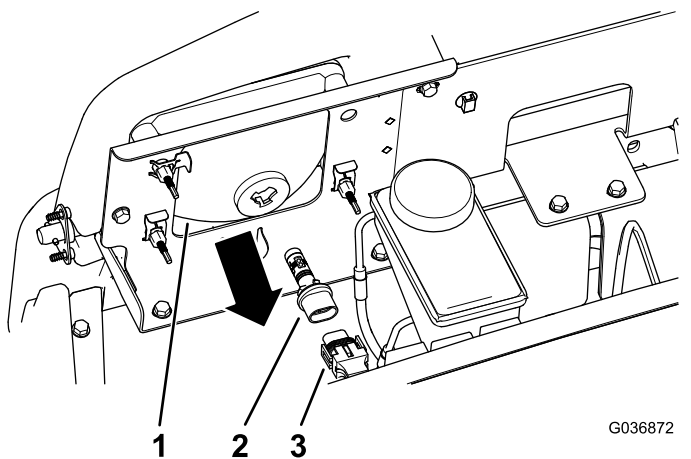

Figure 35
3. Disconnect the electrical connector for the harness from the connector of the lamp assembly at the back of the headlight housing (Figure 35).
4. Rotate the lamp assembly 1/4 turn counterclockwise and moving it rearward, out of the headlight housing (Figure 35).
5. Insert the new lamp assembly and headlight housing and align the tabs in the lamp assembly with the slots in the headlight housing (Figure 35).
6. Secure lamp assembly by turning it 1/4 turn clockwise (Figure 35).
7. Connect the electrical connector for the harness to the connector of the new lamp assembly (Figure 35).